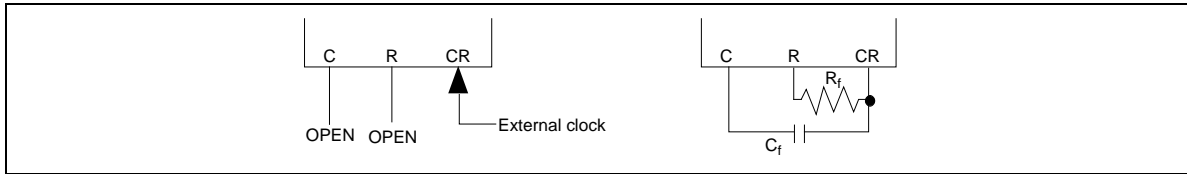

Figure 1 Oscillator Connection in Master Mode
1. **CR Oscillator:** The CR oscillator generates the HD66523 operation clock. During master mode, since the operation clock is needed, connect oscillation resistor R_i with oscillation capacitor C_i . When the external clock is used. Input external clock to pin CR and open pins C and R (Figure 1).